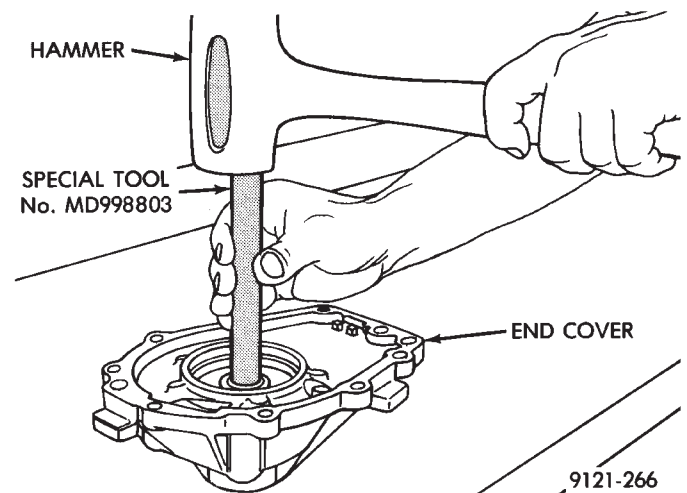

Fig. 5 Seal Installation
(2) Use special tool No. MD998803 and install seal (Fig 5). When installing seal the spring side of the seal must face toward the special tool.